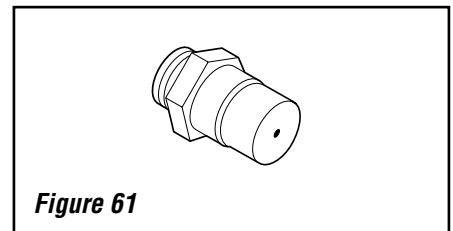

Figure 61
A. Remove the orifice from the manifold and replace it with the one provided in the kit. See **Table 9** for orifice sizes for natural and propane models. **Figure 61** illustrates the orifice.